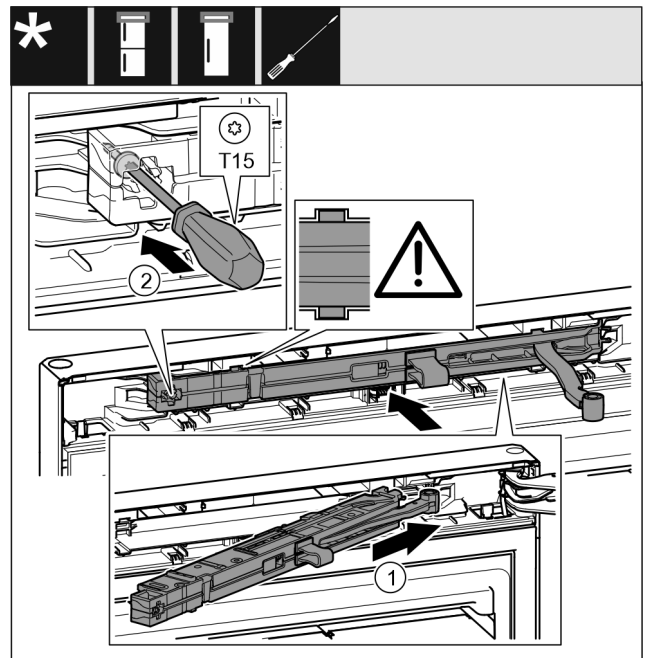

Fig. 48
- Slide the closing damper unit Fig. 48 (1) on the swap bearing block side up to the stop diagonally into the recess.
- Tighten the screw Fig. 48 (2) with a screwdriver.